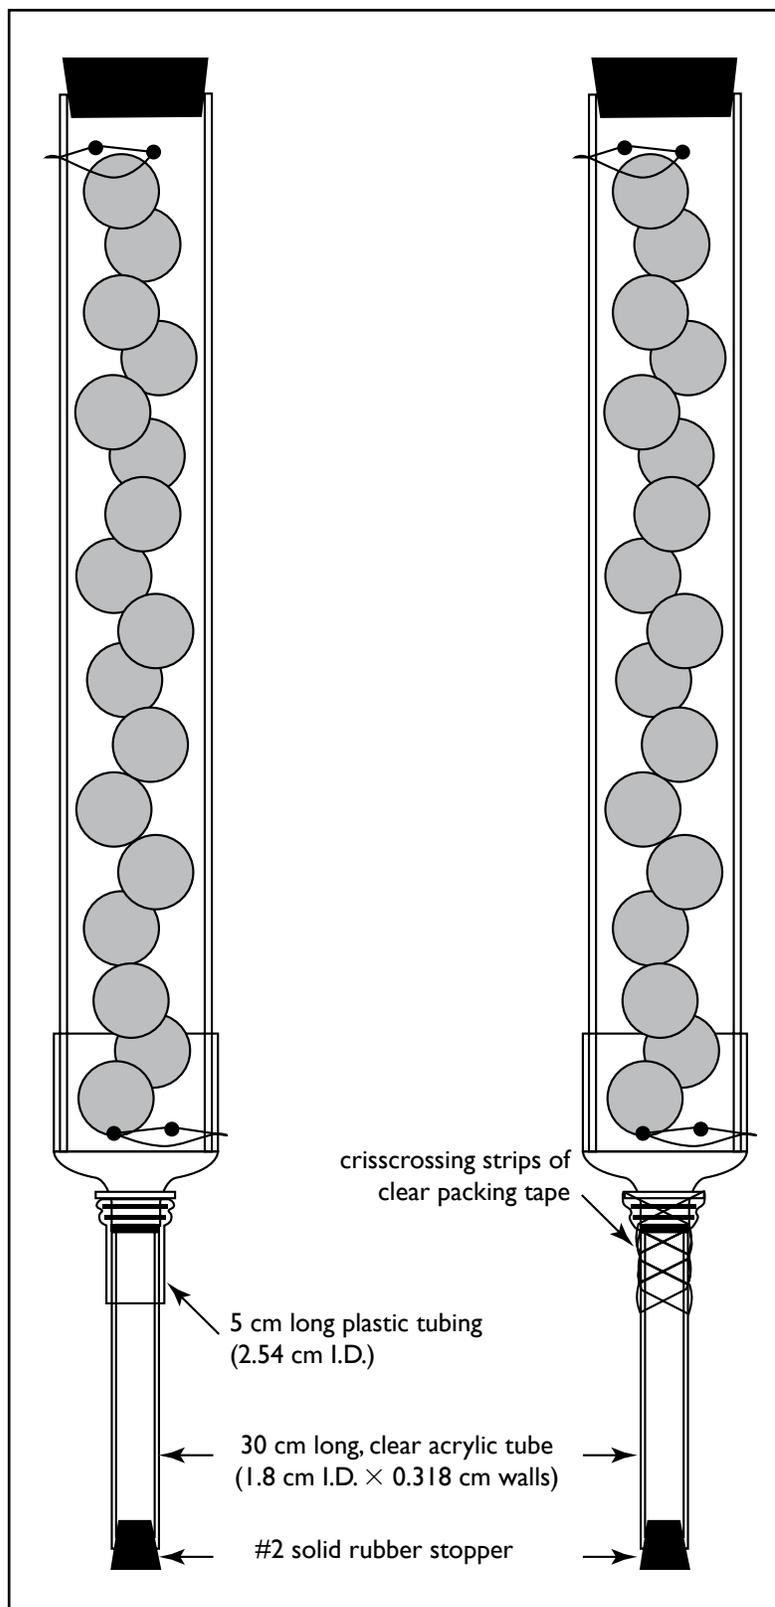

Figure 5. Connecting the smaller acrylic tube to the bottle top.
b. *If using clear tape-strips:* Wrap them diagonally around the tube and the top of the soda bottle so that a crisscrossing pattern develops. The connection should be fairly rigid; if necessary, use extra tape to achieve this (see Figure 5).